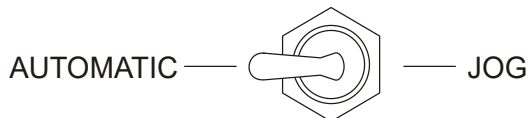

Figure 20. Cylinder Stroke Control Switch (Automatic)
2. Turn the **Cylinder Stroke Control Switch** to the **AUTOMATIC** position (Figure 20).